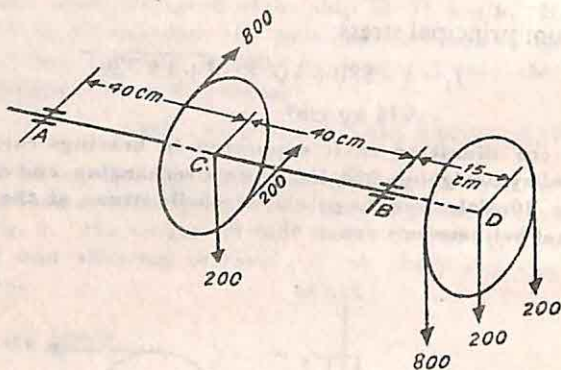

Fig. 11
25. Determine the necessary diameter for a uniform shaft carrying two equal pulleys 80 cm in diameter and weighing 200 kg each as shown in Fig. 11. The horizontal forces in the belt for one pulley and the vertical forces for the other are shown in the figure. The permissible shear stress in the shaft material is 400 kg/cm2.